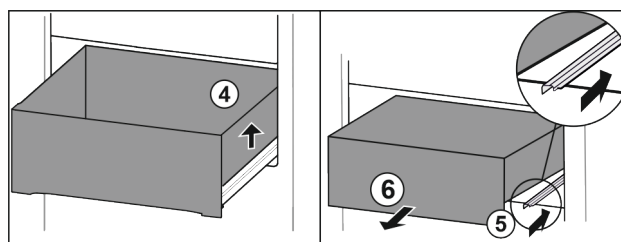

Fig. 14
- ▶ Lift drawer on the right Fig. 14 (4).
- ▶ Slide in right rail Fig. 14 (5).
- ▶ Remove the drawer to the front Fig. 14 (6).